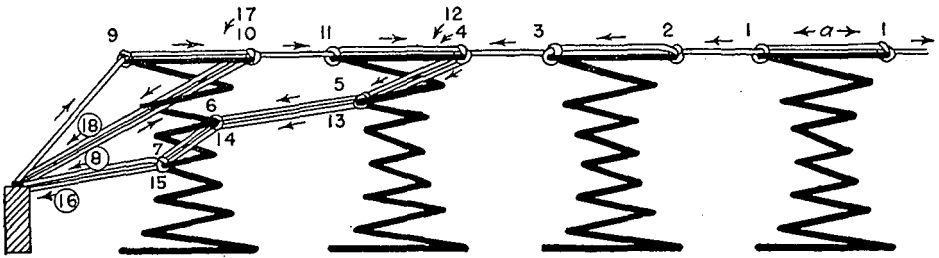
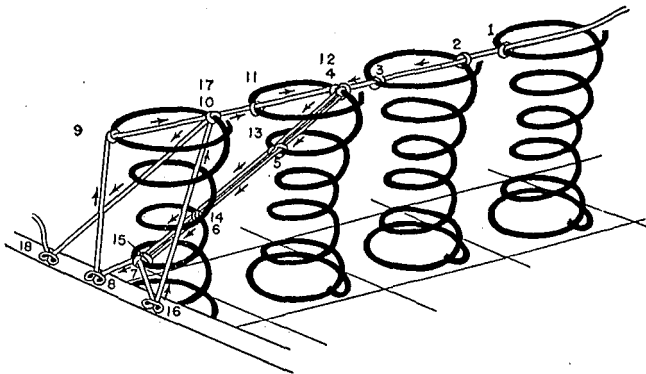

Fig. 8. To tie springs in a large chair, work in direction indicated by numbers.
Fig. 9. To tie springs in a davenport, begin at No. 1 and tie knots as numbers indicate.
**In a Large Chair or Davenport:** In large chairs (figure 8) or davenports (figure 9) where four or more springs are in a row, you will need to make a heavier tying of springs at the front frame edge to steady them. Measure tying twine by laying the twine over a lengthwise row of springs so as to reach from one set of tacks to the other, then triple this measurement.
Start tying the center row of springs and work toward each side frame. Begin at the center of the row, using the middle of your twine. When you reach the next-to-the-end spring, tie as indicated in figure 8. This will reinforce the tying of the second and first springs from the front frame edge. The tying